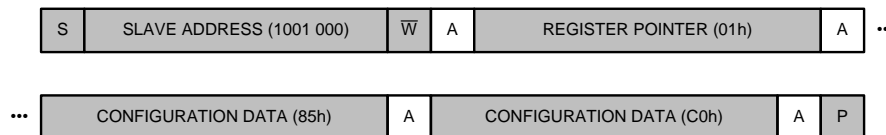
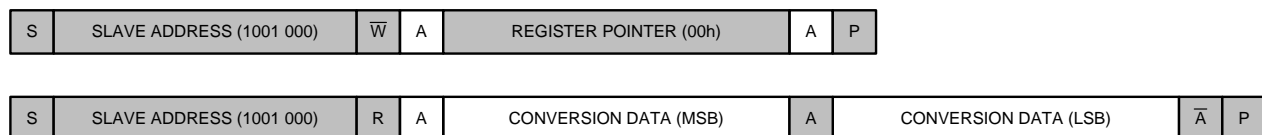

图 21. Write the Configuration Register
图 23. Read the Conversion Data Register
1. Write the configuration register as shown in 图 21 to configure the device (for example, write MUX[2:0] = 000, PGA[2:0] = 010, MODE = 1, and DR[2:0] = 110) and start a single-shot conversion (OS = 1):
3. Then, as shown in 图 23, read the conversion data register:
To save time, a new conversion can also be started (step 4) before reading the conversion result (step 3). 图 24 lists a legend for 图 21 to 图 23.